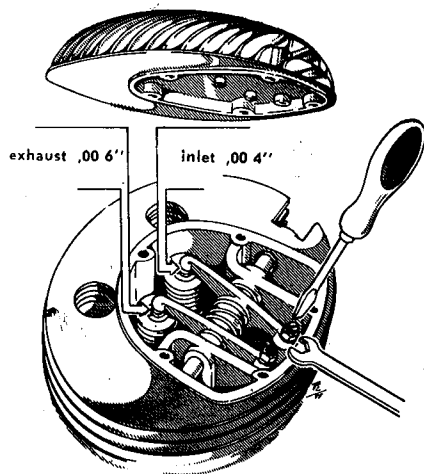

Fig. 19
2. Adjusting clearance between rockers and valves (see fig. 19).